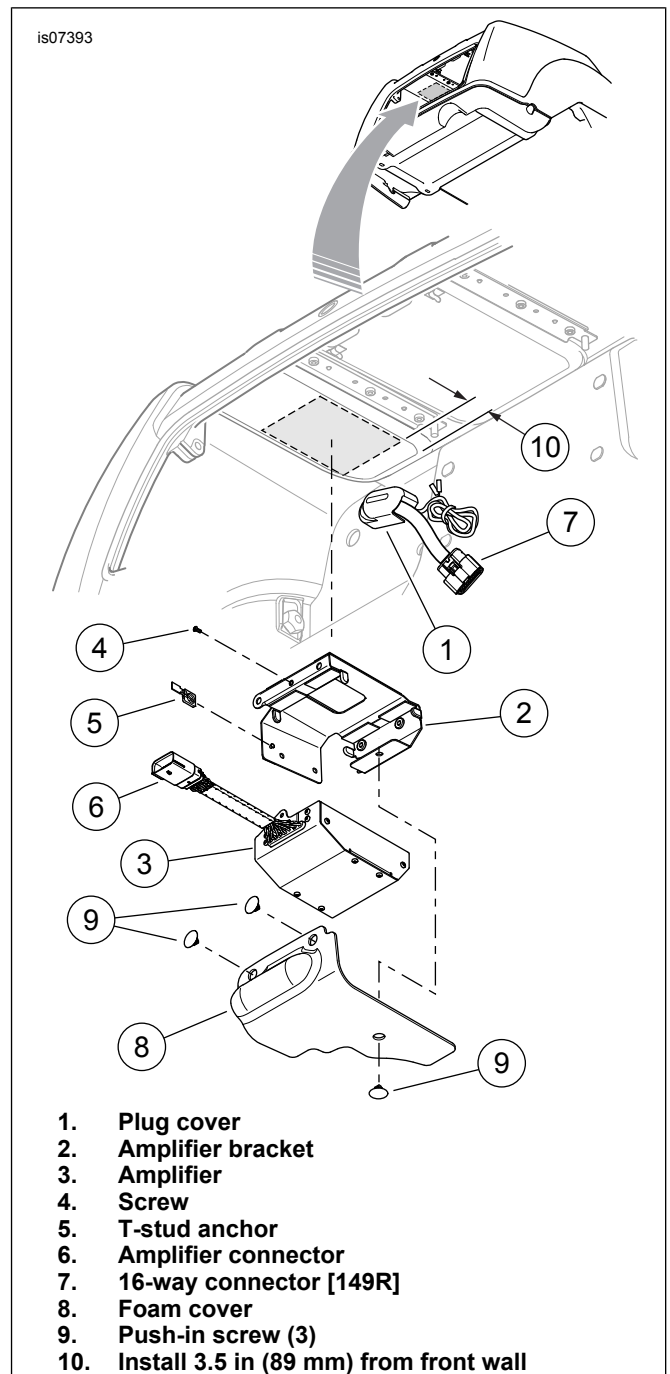

Figure 5. Secondary Amplifier Mounting
3. See Figure 5. Install the plug cover (1) over the panel mount connector and jumper harness from the **inside** of the trunk. Insert two screws through the connector flange and trunk wall from the **outside** of the trunk, and into the threaded holes in the plug cover. Tighten to 3.95–4.52 N-m (35–40 in-lbs).
5. See Figure 5. Clean the flat area on the underside of the trunk ceiling to the rear of the panel mount connector plug cover (1) with a 50-50 mixture of isopropyl alcohol and distilled water. Allow to dry thoroughly.
6. Remove the liners from the adhesive backing of the amplifier bracket (2). Carefully position the bracket to the underside of the trunk ceiling as shown, centered in the flat area, approximately 89 mm (3.5 in) from the trunk front wall, and press firmly into place. Hold the bracket in position with steady pressure for a few minutes.
7. Position the amplifier (3) onto the bracket, with the metal cones on one end fitting firmly into the rubber grommets in the bracket.
8. Fasten the amplifier to the bracket with the screw (4).
9. Attach the T-stud anchor (5) to the amplifier connector (6).
10. Plug the jumper harness 16-way connector [149R] (7) into the amplifier connector. Attach the anchor to the T-stud on the amplifier bracket.